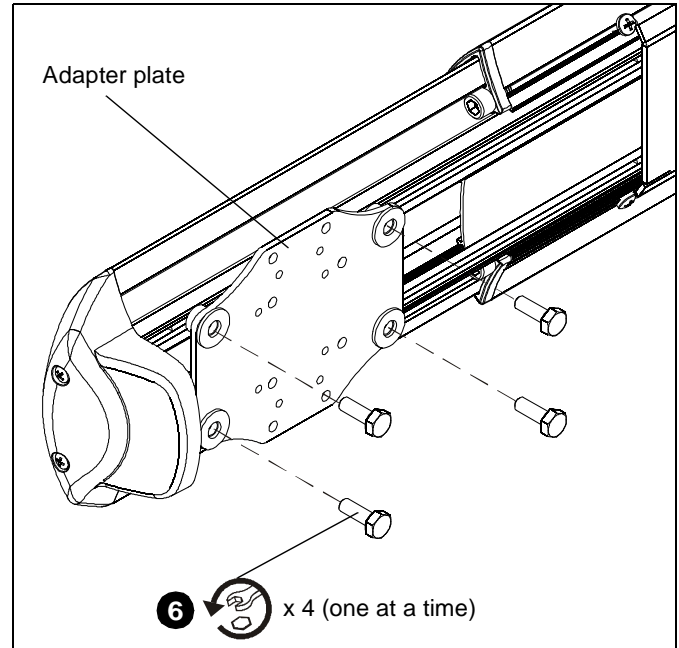

Figure 31
- Remove one of four bolts from adapter plate. (See Figure 31)